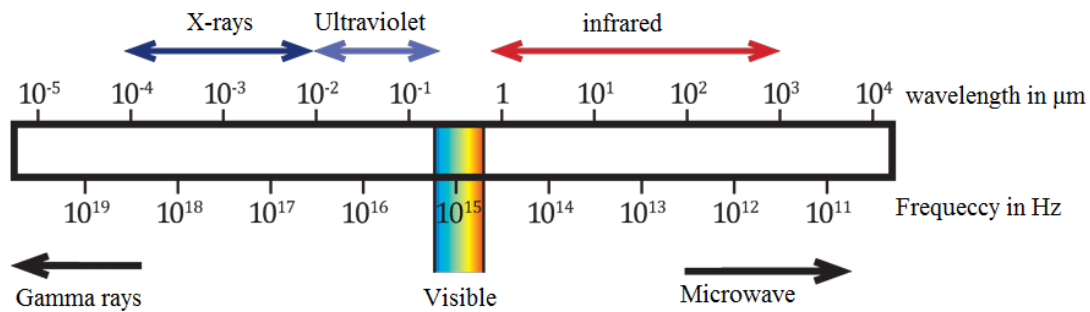

Fig. 1 Electromagnetic spectrum
What we see with our eyes is only the small part (visible region) of a broad spectrum of electromagnetic radiation. On the immediate high energy side of the visible spectrum lies the ultraviolet, and on the low energy side is the infrared (IR) (see Fig. 1). This invisible portion of light carries various supplementary information.